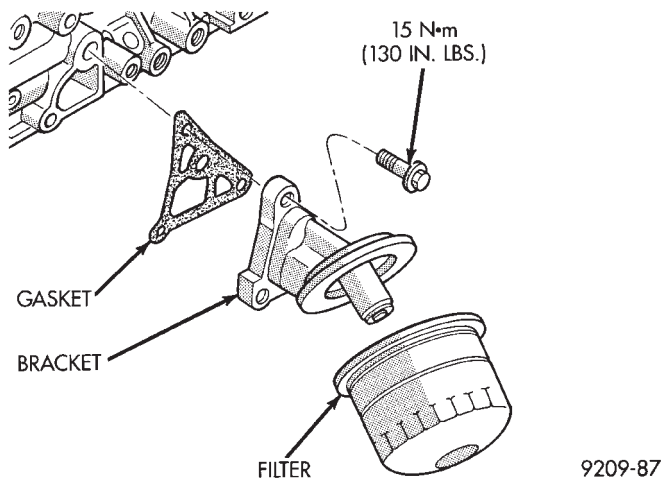

Fig. 12 Oil Filter and Bracket
(1) Check the oil filter mounting surface. The surface must be smooth, flat and free of debris or old pieces of rubber (Fig. 12).
(2) Check bracket for cracks and oil leaks.